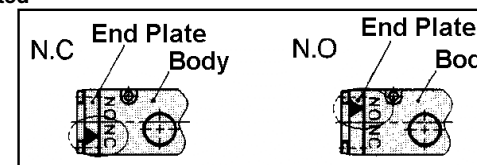

Figure 34
- When changing the actuation from normally closed to normally open type, remove the end plate from the body and reset the ▼ mark on the end plate to correspond with the 'NO' mark on the body as shown in Figure 34.